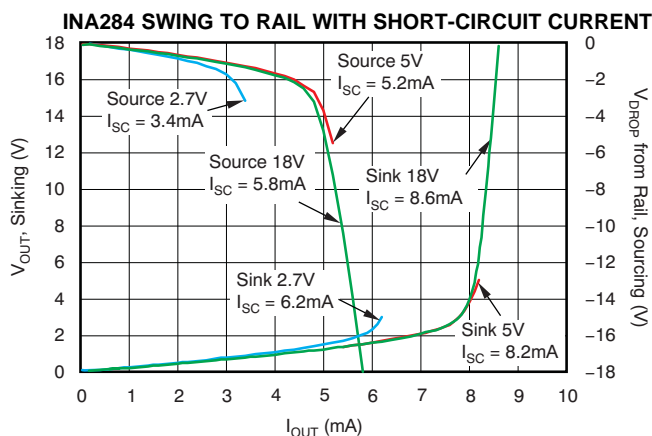
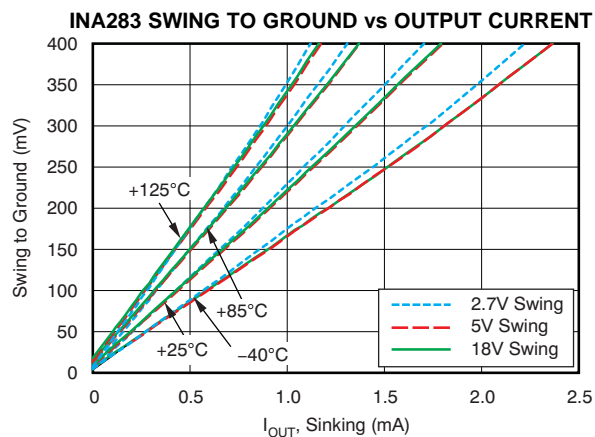

Figure 29.
Figure 31.
(6) See typical characteristic graphs Figure 29 through Figure 31.